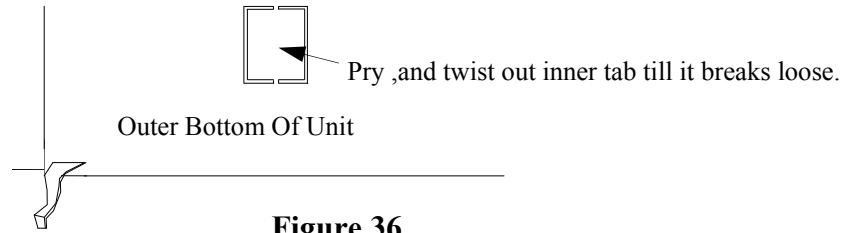

Figure 36
7. Next fasten New Buck’s Cast Collar Part number MA6CHIMCNB to the flue exit of stove to be used, using the J hook’s provided. Position collar with gasket towards the unit, tighten the J hook’s **Firmly** secured. (See Figure 36).
8. Fasten New Buck’s Flue Collar Plate to the exit not used for burning stove. Firmly secure the Flue Collar Plate Bracket with the nut and washer provided. (See Figure 36).
NOTE: Position heater out of the way of the installation area. Lay the heater on it side. The following must be done. Locate optional air inlet plate opening on outer bottom of unit. With pliers or screwdriver, pry ,or twist out tab till it breaks loose. This is where your outside air enters unit after installation is complete. (see Page 43 Figure 36).